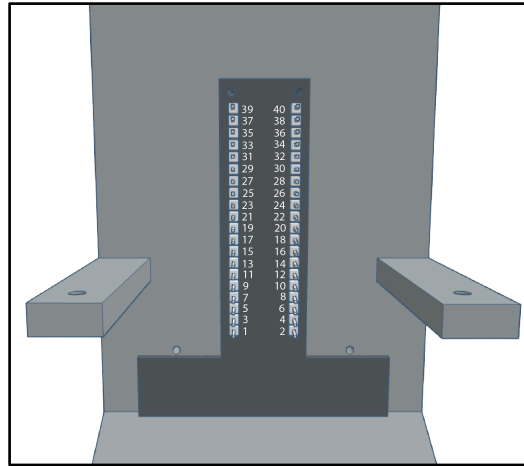
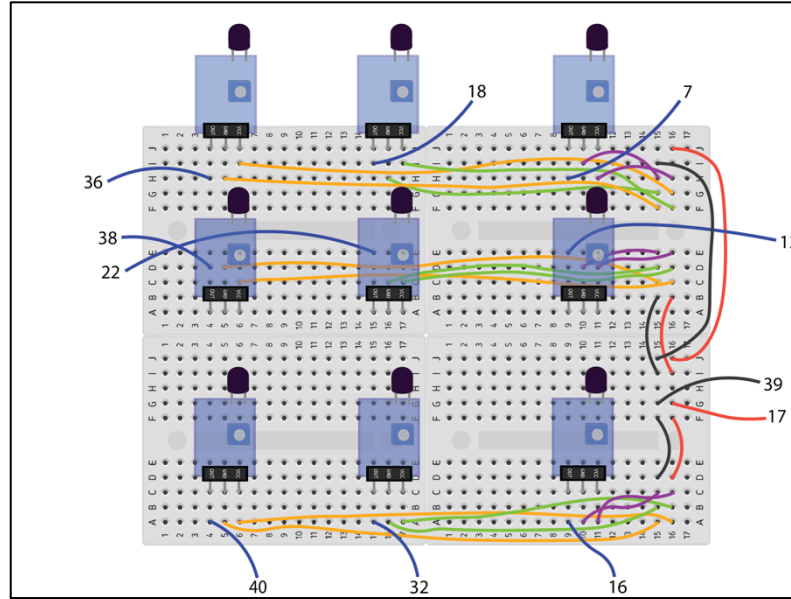

Figure 11. Installation of RetlNaBox GPIO adapter.
Figure 15. Logic for connecting photodiodes to the GPIO board.
RetlNaBox includes a GPIO interface to enable simple connectivity between RetlNaBox and the Raspberry Pi with a single cable. Secure the GPIO interface board in the corresponding hole in P1 and attach it using four 6mm M2 screws (**Fig. 11**). **The following steps occur at the same time as Case Assembly.*
- b. Use female-to-male dupont wires to connect the signal output pin of each photodiode to the GPIO, using connectivity instructions listed below (**Fig. 15**). Each number in **Fig. 15** corresponds to a GPIO pin (**Figs. 11 & 12**).